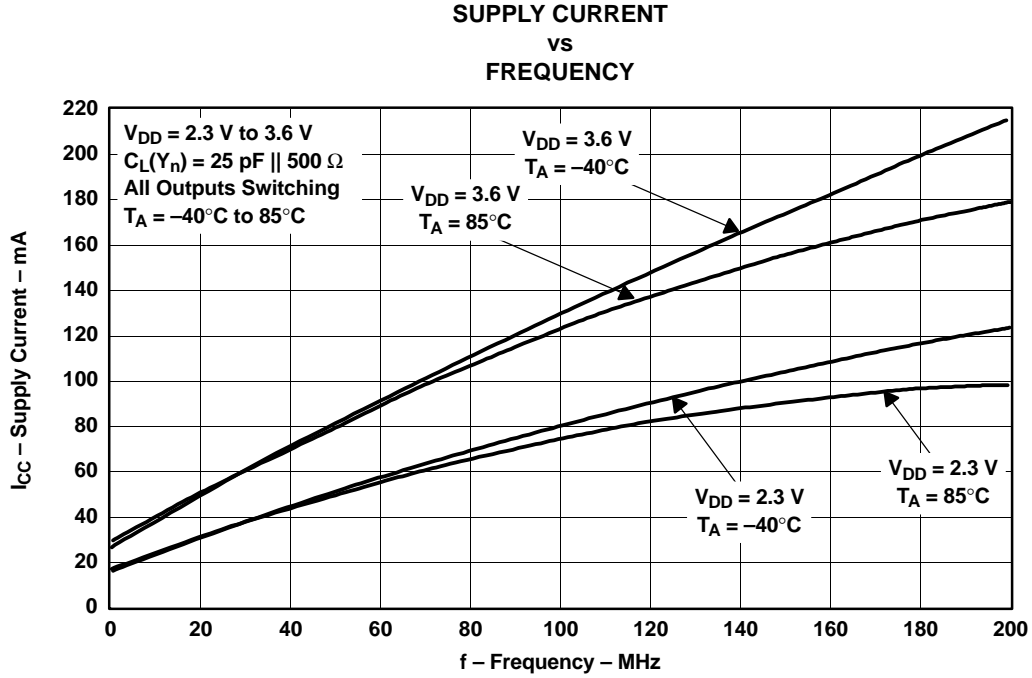

Figure 6.
- (1) All typical values are at respective nominal V_{DD} .
- (2) For I_{CC} over frequency, see Figure 6.